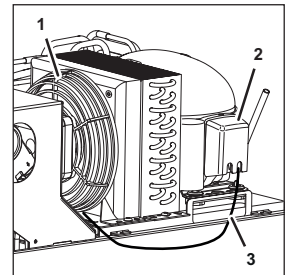

Fig. 52
1. Remove the cover (Fig. 52/2) from the electrical assembly.
2. Disconnect the cable (Fig. 52/3) of the fan (Fig. 52/1) from the electrical assembly.
9. Connect the cable (Fig. 52/3) of the fan (Fig. 52/1) to the electrical assembly.
10. Attach the cover (Fig. 52/2) of the electrical assembly.